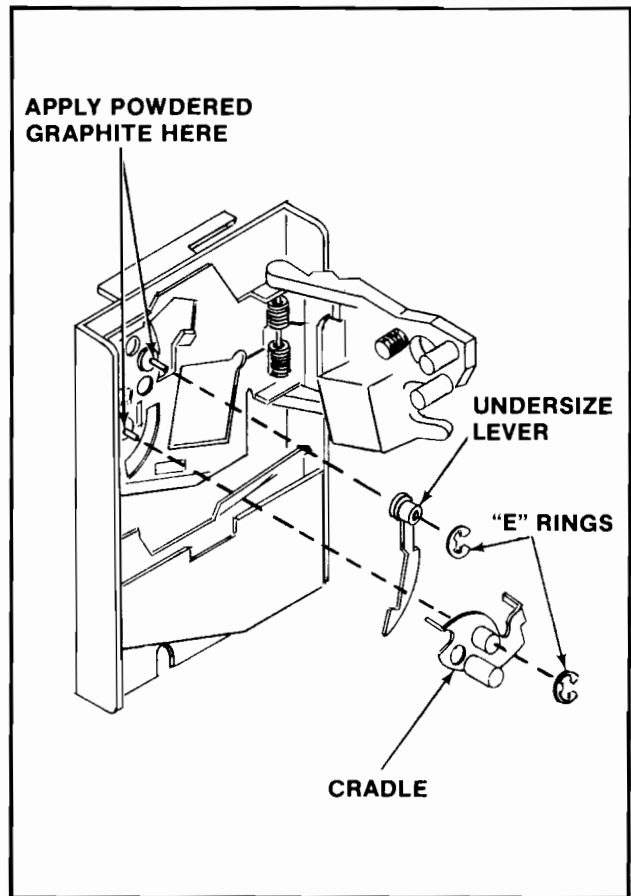

Figure 4-3 Lubricating the Metal Coin Acceptor
- Use **ONLY** powdered graphite and put it **ONLY** on the moving parts of the coin acceptor. These parts are called out in Figure 4-3.